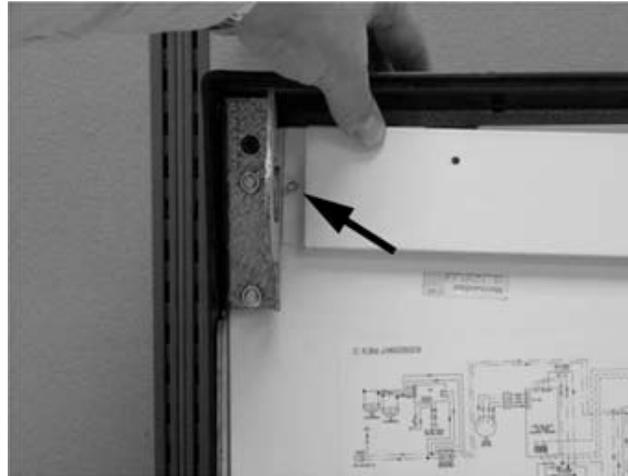

Figure 68.
- B. Push screw saved from step 4A through the hole and attach nut, as shown in Figure 68.